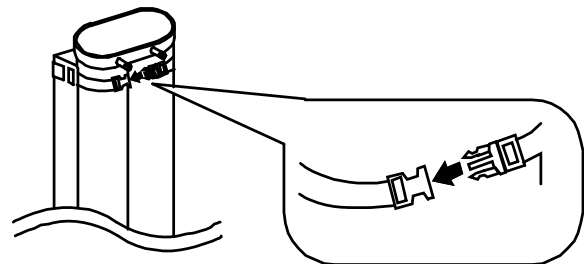

Fig. 02
- (4) Secure ion-exchange resin cartridge with fixing band of the mount (Fig. 02).